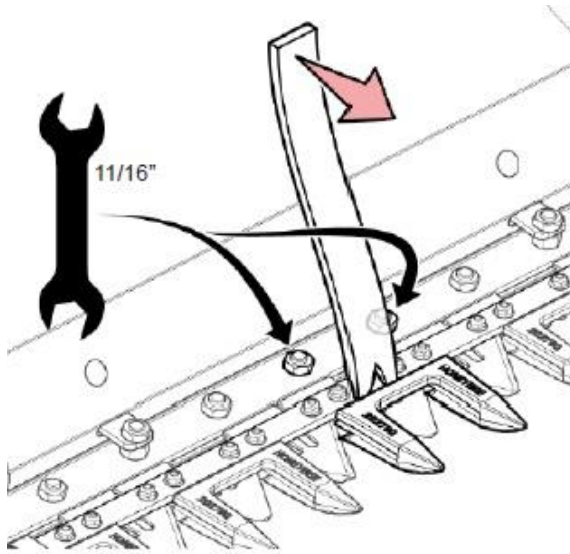

Figure 128
5. When installing the guards make certain that the guards and wear plates are adjusted properly. Use a pry bar to push the cutter bar to the rear. Tighten all the guard bolts. To 40 ft. Lbs. of torque on Model Year 2021 and below and 47 ft lbs on Model Year 2022 and above. Figure 128 Note: On MY 2022